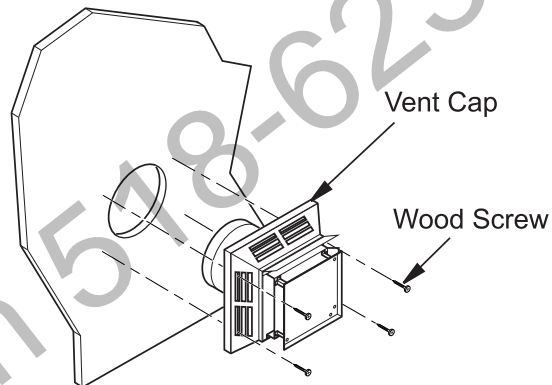

Figure 19 - Installing Horizontal Vent Cap (Noncombustible Exterior)
**Noncombustible Exterior Wall:** Apply a bead of non-hardening mastic around outside edge of vent cap. Position vent cap in center of the 8 1/2" hole on the exterior wall with arrow on vent cap pointing up. Attach vent cap with four wood screws provided (see Figure 19). *Note: Replace wood screws with appropriate fasteners for stucco, brick, concrete, or other types of siding.*